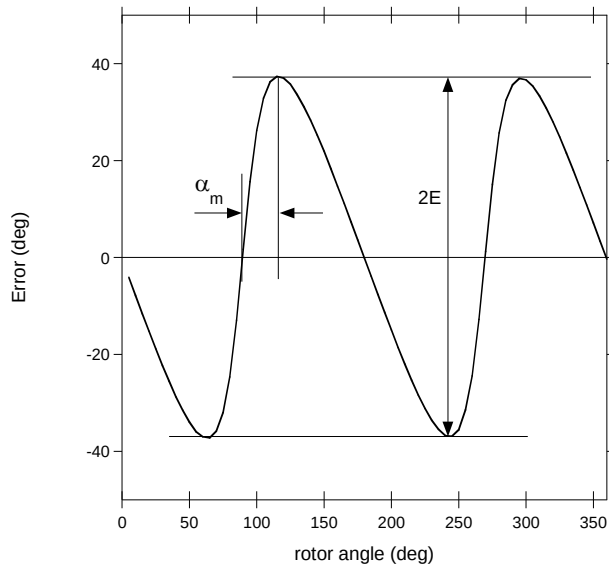

Figure 7: Error Curve in Side-Shift Configuration with BCT = 0
It is possible to deduce the k ratio from the error curve obtained with the default BCT setting (BCT = 0). For this purpose, rotate the magnet over one revolution, record the MP6570 angle sensor output, plot the error curve (i.e.: the sensor output minus the real mechanical position vs. the real mechanical position), and extract two parameters: the maximum error (E) and the position of this maximum with respect to a zero crossing a_m (see Figure 7).